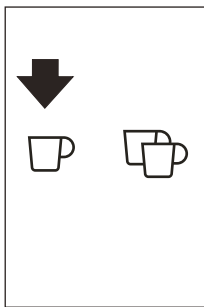

Fig. 19
- ▶ You can make just one coffee at a time by pressing the icon ☕ (B10) (Fig. 19).